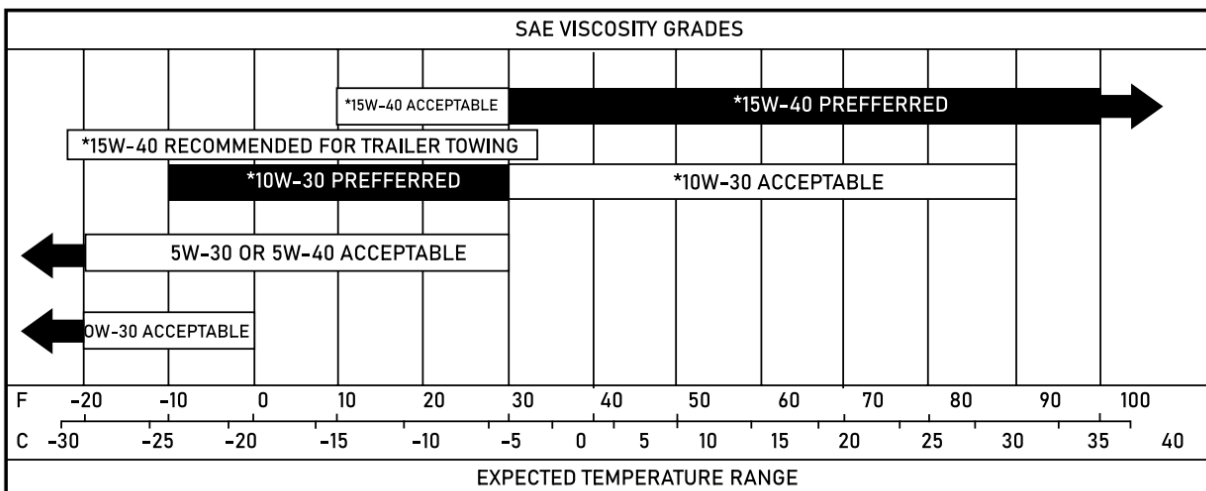

Figure 2
1. Ensure engine oil is clean, is the correct viscosity for the temperatures it will be operating in (refer to Figure 2 on the next page) and has the recommended API service category rating (we advise using CJ-4 or CI-4 PLUS, although Ford allows CI-4). 6.0 L and 7.3 L Power Stroke® customers should be reminded to adhere religiously to Ford's minimum recommended lube oil and filter change intervals (7,500 miles normal duty; 5,000 miles severe duty).